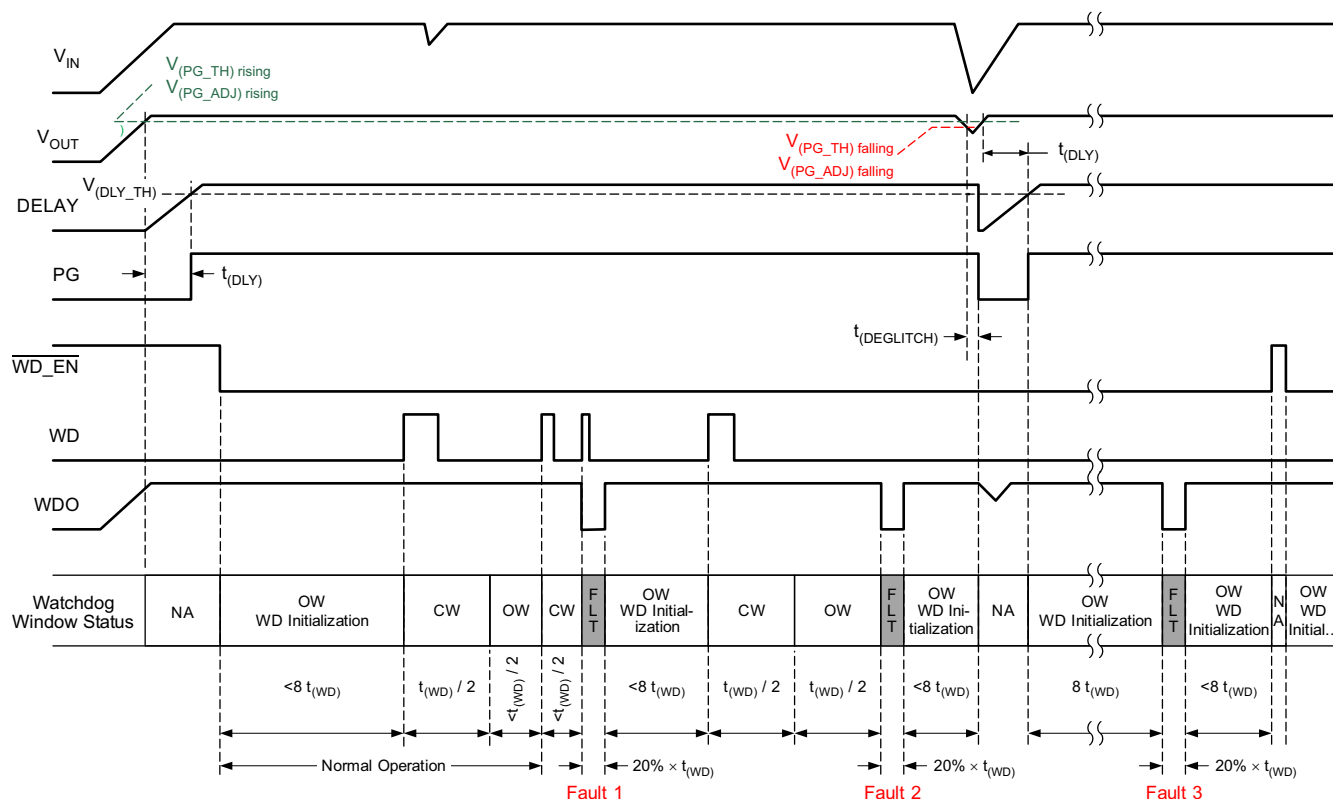

Figure 7-4. Window Watchdog Operation
The window watchdog is able to monitor whether the frequency of the watchdog service signal (WD) is within certain ranges. A watchdog low-voltage fault is reported when the frequency of the watchdog service signal is out of the setting range. Figure 7-4 shows the window watchdog initialization and operation for the TPS7B63xx-Q1 (WRS is low). After the output voltage is in regulation and PG is high, the window watchdog becomes enabled when an external signal pulls  $\overline{\text{WD\_EN}}$  (the watchdog enable pin) low. This causes the watchdog to initialize and wait for a service signal during the first initialization window for 8 times the duration of  $t_{\text{WD}}$ . A service signal applied to the WD pin during the initialization open window resets the watchdog counter and a closed window starts. To prevent a fault condition from occurring, watchdog service must not occur during the closed window. Watchdog service must occur during the following open window to prevent a fault condition from occurring. The fault output (WDO), externally pulled up to  $V_{\text{OUT}}$  (typical), stays high as long as the watchdog receives a proper service signal and there is no other fault condition.
Three different fault conditions occur in Figure 7-4: